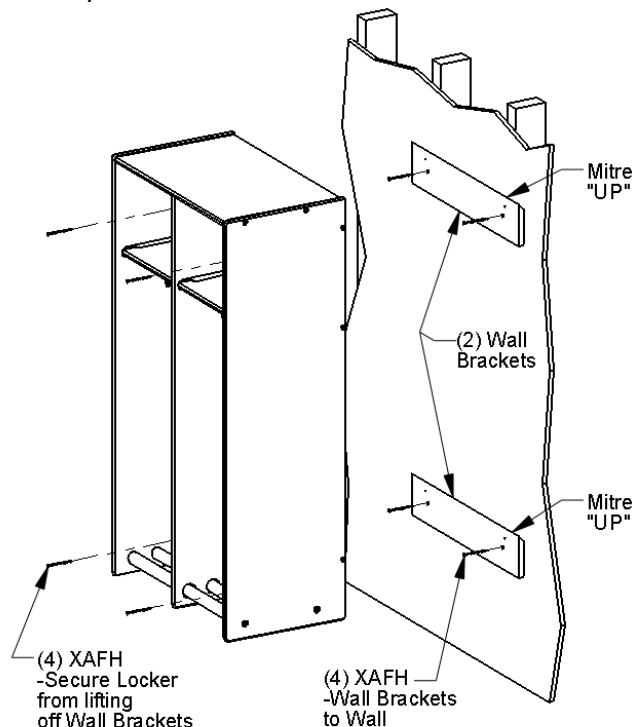
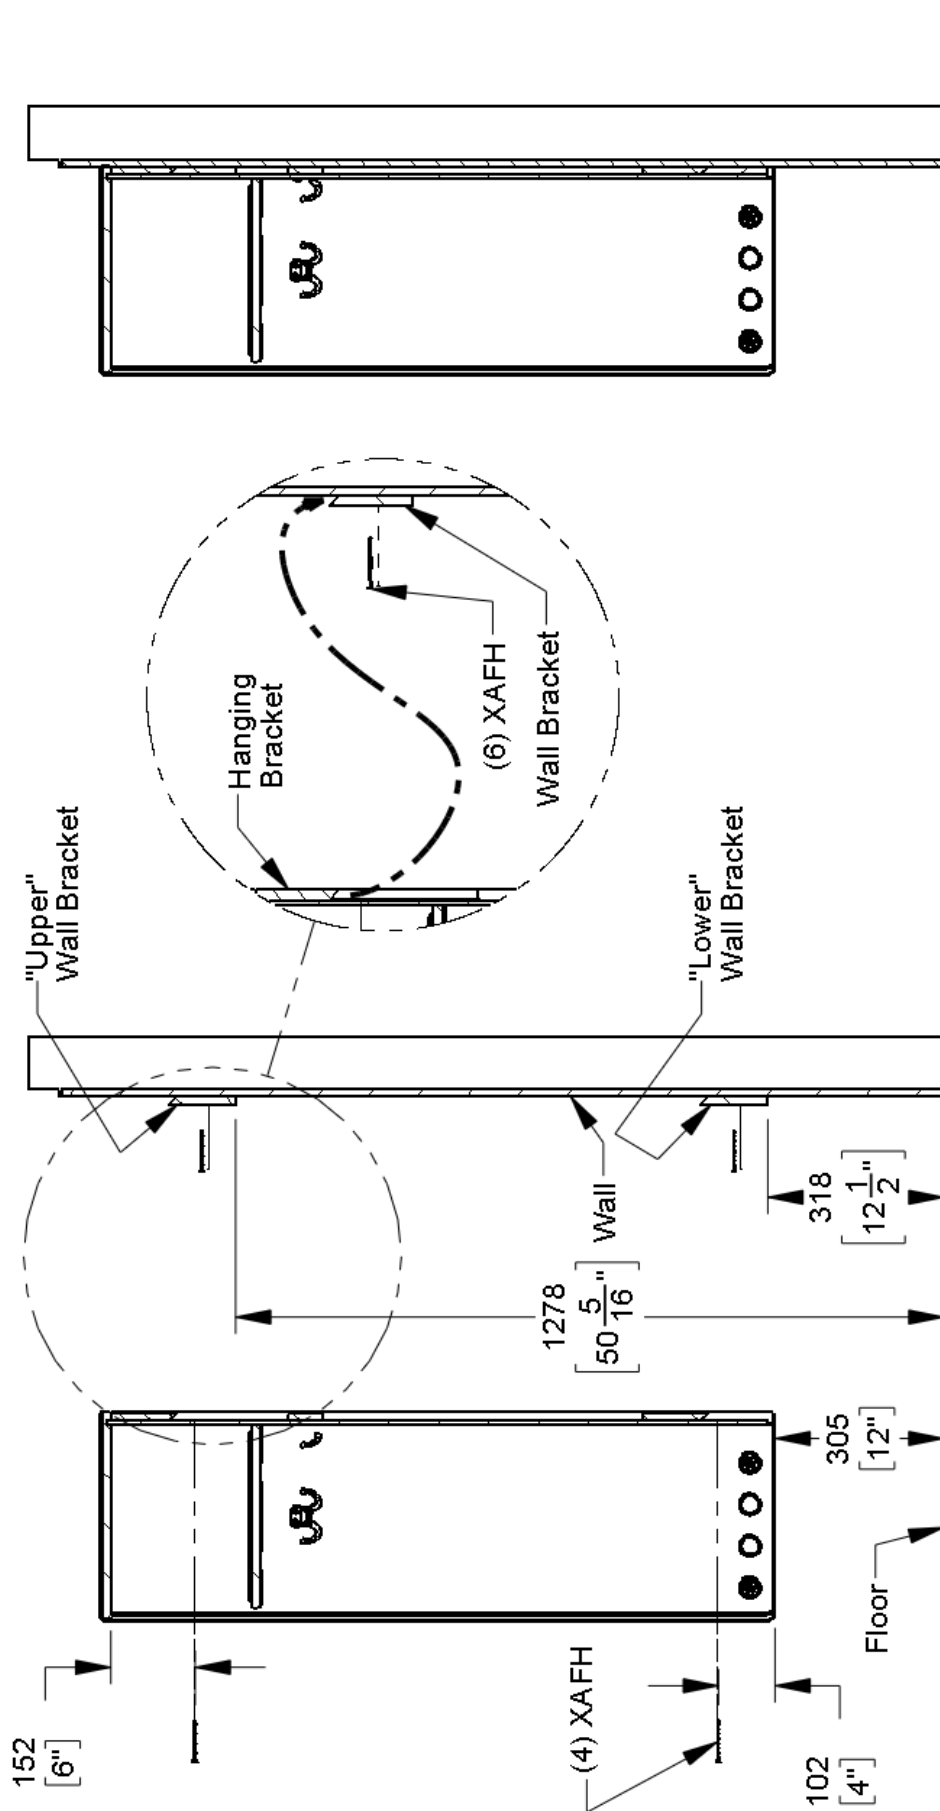

Fig 2
Fig 3
2. Select wall location for Locker. Attach the (2) Wall Brackets to the wall studs using 4 of the 3" drywall screws that have been provided **(See Fig 2 and Fig 3)**. **Note:** Wall mounting bracket must be mounted to at least two wall studs.
4. Finish securing the unit by pre-drilling w/countersink and screwing four more of the 3" drywall screws through the back and into the upper and lower wall brackets, locate holes approximately 6" below the Top and 4" above bottom **(See Fig 2 and Fig 3)**. This step will insure that the unit will not lift off the Wall Brackets.
5. If you experience any difficulties when assembling this product, please contact the Jonti-Craft Customer Relations Team at (800) 543-4149 or sales@jonti-craft.com. All other requests for assistance must be directed to your Jonti-Craft Dealer.